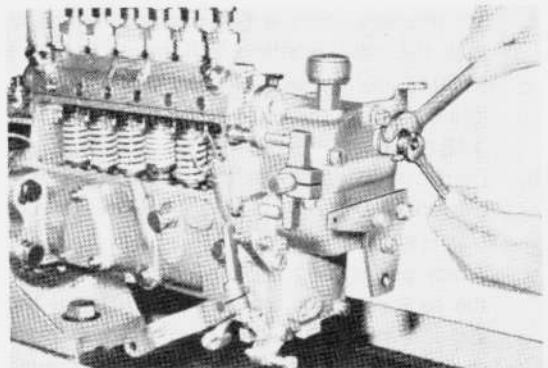

Fig. 3-183 Damper Spring Adjustment
- Set the adjusting lever angle similar to low speed control, and at 400 rpm revolution, adjust by turning the damper spring as per Fig. 3-183, so that the rack position will be at 5.0 mm (0.197"); then, secure with the lock nut.